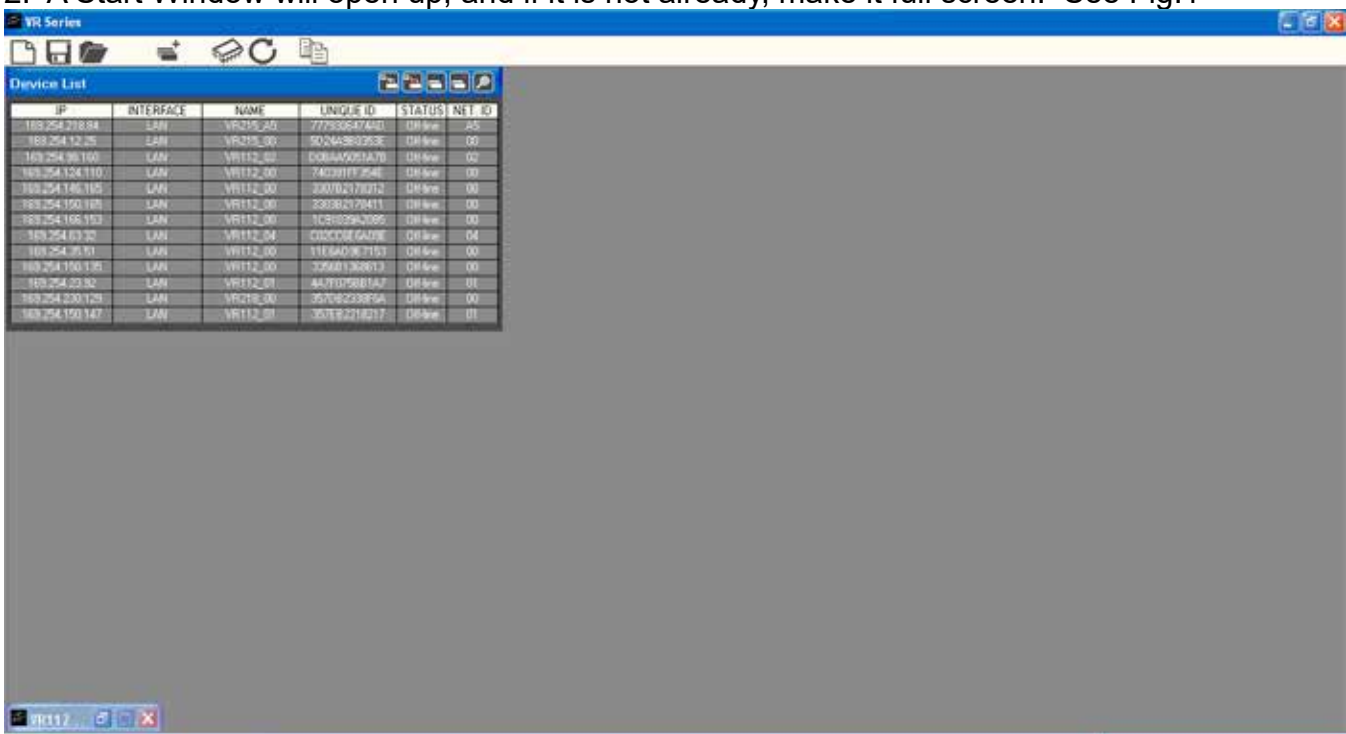

Fig.1
2. A Start Window will open up, and if it is not already, make it full screen. See Fig.1